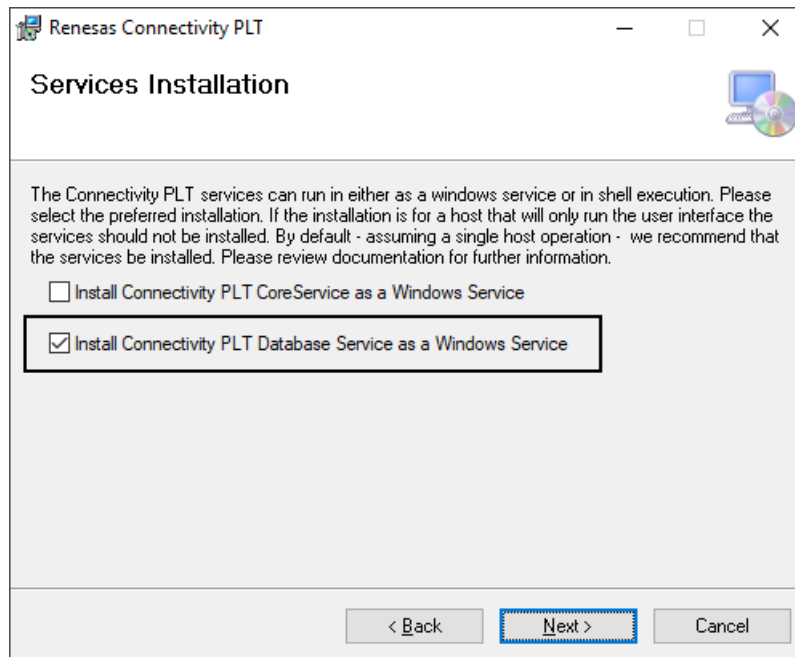
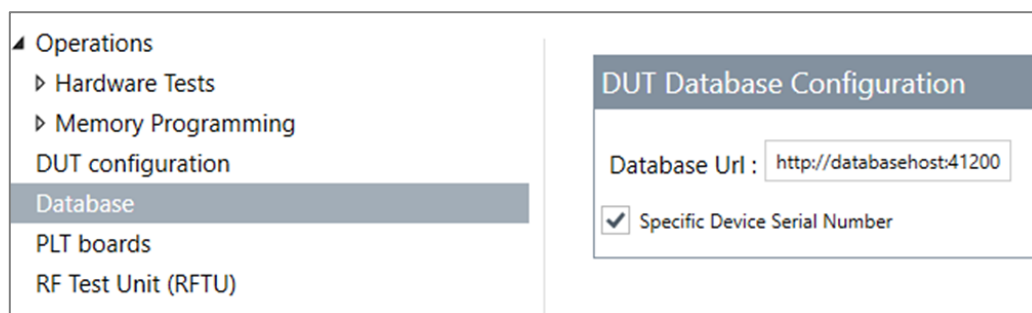

Figure 18. Database Service Installation
Figure 19. Database Host configuration
- **Database Service System** – to use another host only as the database service, complete the installation enabling the Renesas Connectivity PLT Database Service Windows service during the installation and disabling the CoreService installation (Figure 18). Remember the IP address of this host as well. For the CoreService to communicate with the database on separate host, the configuration should be updated with the correct IP address or host name as shown in Figure 19.